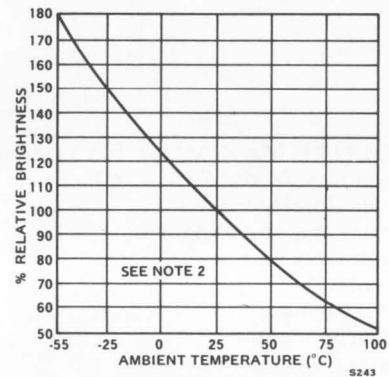

Figure 2 Brightness vs. Temperature
- The curve in Figure 2 is normalized to the brightness of 25°C to indicate the relative efficiency over the operating temperature range.